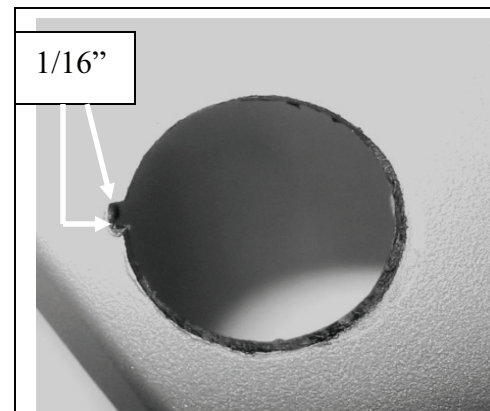

FIGURE 2
4. Cut a square groove, $\frac{1}{16}$ " long on each side, on left side of the hole **(FIGURE 2)**.